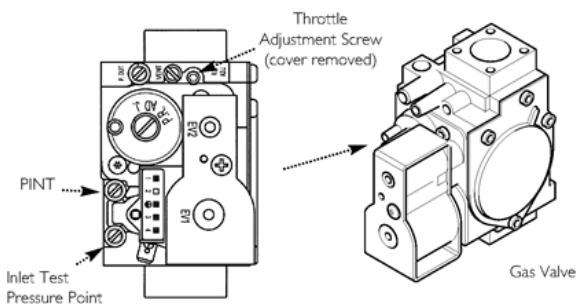

Fig. 76
5. It is possible to alter the CO₂ at the maximum rate by adjustment of the gas valve. Remove the blue plastic cover from the 'Throttle' adjustment screw. At maximum rate the 'Throttle' adjustment screw should be turned, using a suitable 2.5mm hexagon key, until the correct reading is obtained (Fig. 76). Turning clockwise will reduce the CO₂. Anti-clockwise will increase the CO₂